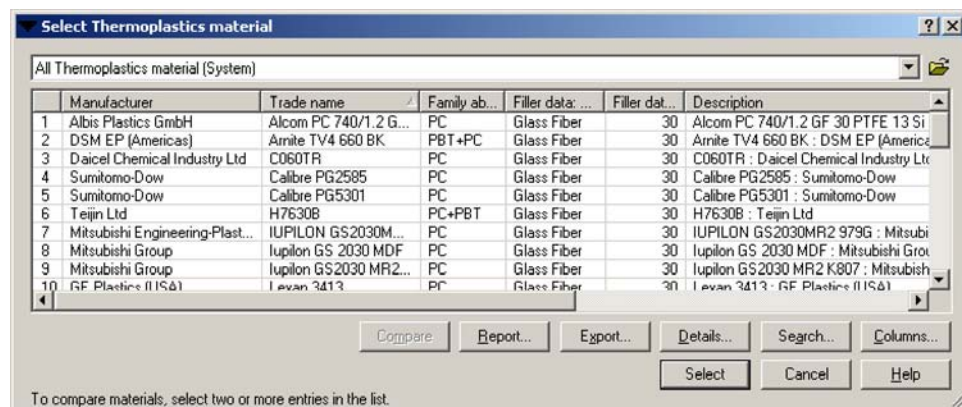

Figure 291: Search results
Search results are displayed in the **Select Thermoplastics material** dialog. Clicking on a column heading sorts that column. In Figure 291, the Trade name column has been clicked. It has a little up arrow indicating the sort is ascending. If you click the column heading again, the results will be redisplayed in descending order. You can change the order of a column by dragging and dropping the column heading. This may be useful in helping narrow down the list of materials you are interested in.
- Clicking the **Details** button on the **Select Thermoplastic material** dialog, shown in Figure 291 on page 409.
- Selecting two more materials on the **Select Thermoplastics material** dialog and clicking the **Compare** button Figure 291 on page 409.